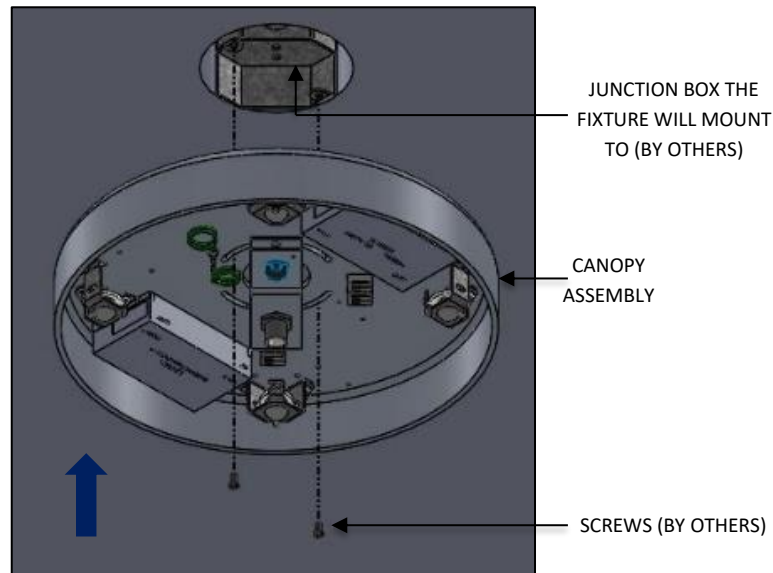

FIG. 6 – CANOPY ASSEMBLY INSTALLATION
2. Assemble the CANOPY ASSEMBLY to the JUNCTION BOX (by others) with screws (by others) at the center of the non-powered mounting points as shown in FIG. 6 below.